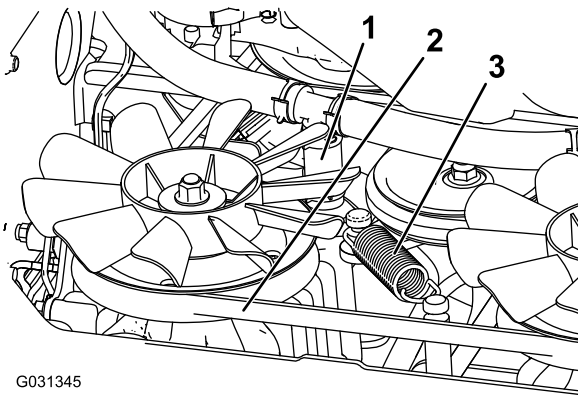

Figure 68
5. Remove the lower hydraulic hose (Figure 68).
6. Remove the tension spring (Figure 68).
7. Remove the deck belt from the clutch and clutch stop (Figure 68).